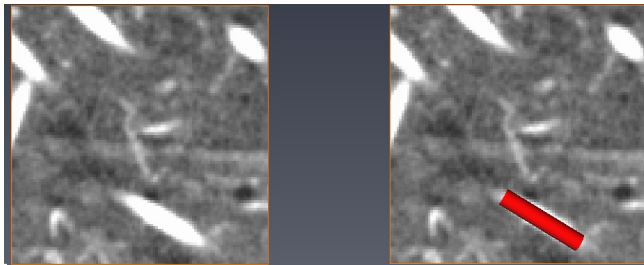

Figure 10.7: Visual Cylinder Length Setup
3. Once a fiber is visible on the slice along its main orientation, middle-click twice on the fiber to set the length of the cylinder with a start and end points. If the length is not satisfactory, repeat middle-clicking twice on the data (see Figure 10.7).